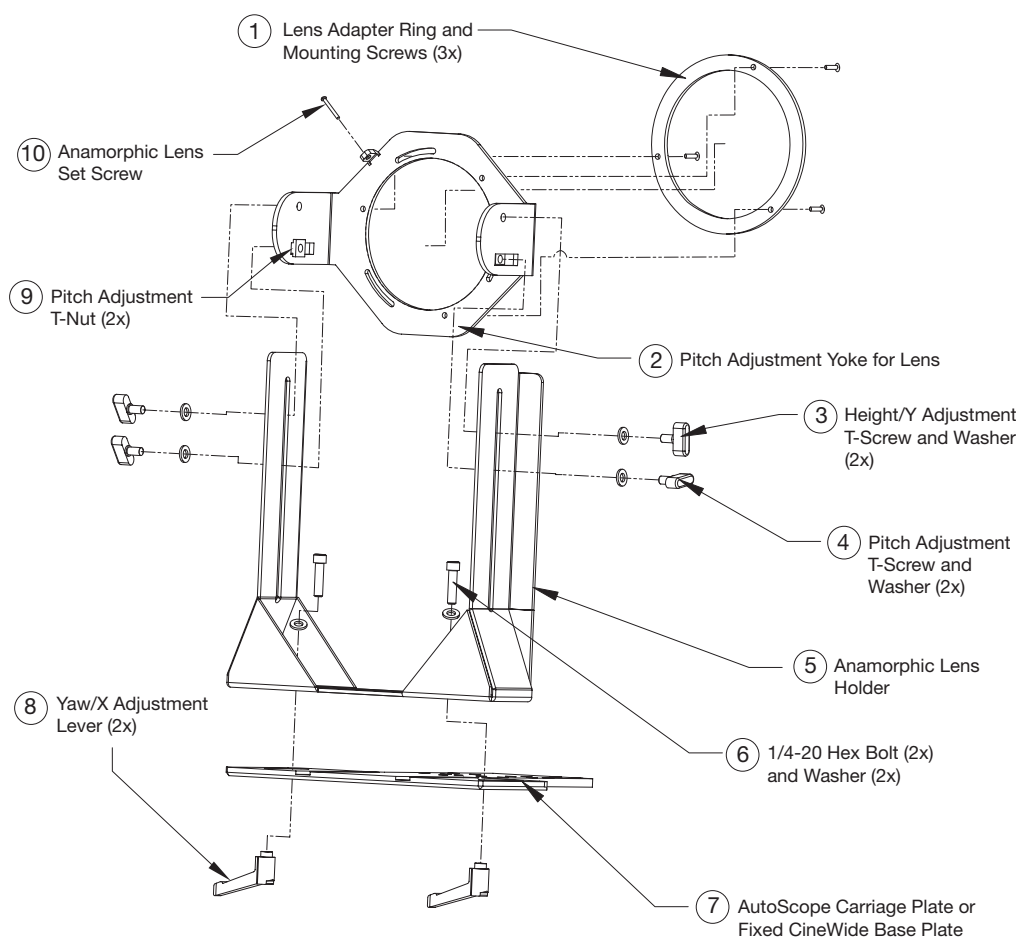

Figure 3-24. Anamorphic Lens Mounting Assembly - Exploded View
The Q-750d Ultra Anamorphic lens mount kit consists of everything shown in Figure 3-24. Some components shipped with your projector may differ slightly from what is shown in these instructions. If any items are missing or damaged, please contact your Runco dealer or Runco Customer Service at (800) 23-RUNCO.